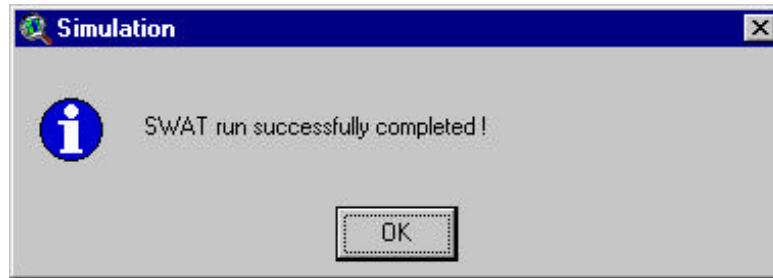

Figure 13.44
- b. If the simulation terminates properly, a message box will notify the user of a successful run (Figure 13.44).